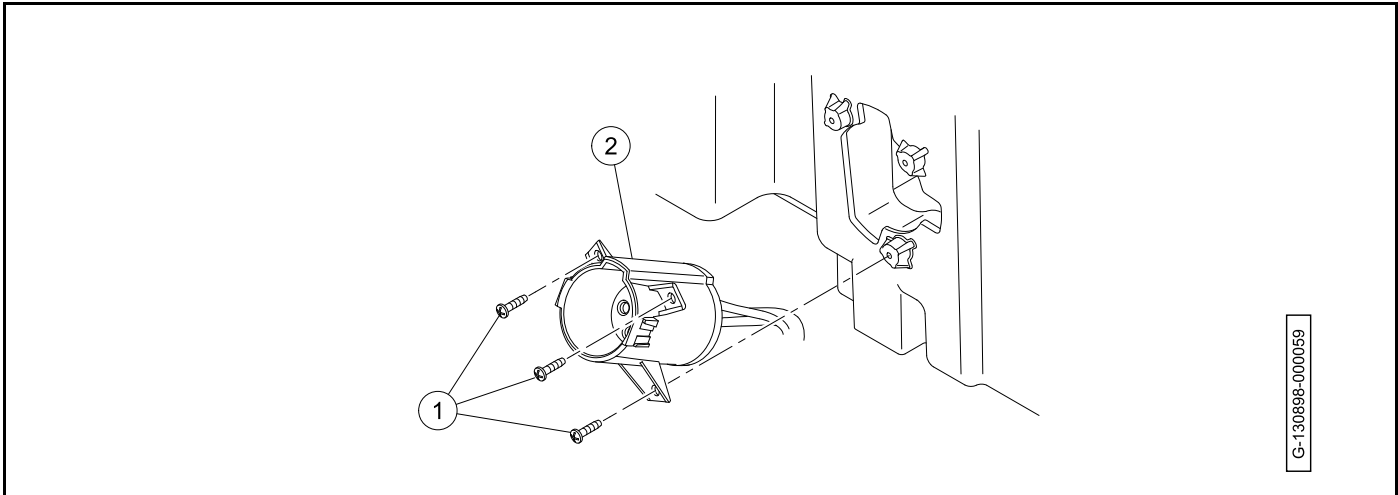

Figure 13-5
2. Install the charger receptacle (2) in the bucket (**Figure 13-5**).